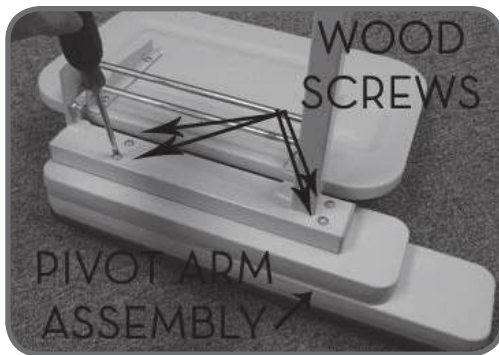

FIG 1
2. Align the screws on bottom of the **Seat Assembly**, with the **Seat Support holes**. (Hole spacing of Seat Supports will be narrower toward front of Chair). **Seat** can only be properly installed facing one direction. **Be sure that all (4) Seat Screws go completely through the Seat Support straps on chair frame. (FIG 1)**
3. Install four (4) **lock nuts** to the screws on the **Seat Assembly** and completely tighten with $\frac{7}{16}$ " wrench. **(FIG 1)**
1. If the **Arm Assembly** has not yet been installed, insert it into the **Receiving Tube** on the **Seat Frame**. (FIG. 1) *This applies to any style arm assembly
- * **ALWAYS** make sure that the slot in the Arm Assembly faces the Knob installed on the receiving tube. (FIG. 1)
2. Use a Phillips or #2 square bit screwdriver to remove the four (4) wood screws on the underside of the arm assembly that hold the pivot arm assembly onto the steel arm support. (**FIG 1**)
2. While holding the main frame down, gently pull up evenly on the back frame until the spring buttons are seated - listen for an audible click. (FIG 1).